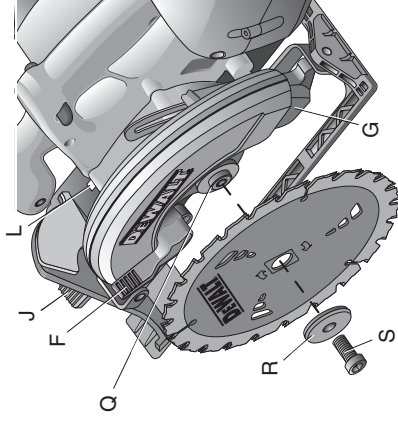

FIG. 6
DC310 ONLY (FIG. 6, 7)
1. Place inner clamp washer (Q) on saw spindle with the large flat surface facing out toward the blade (Fig. 6).